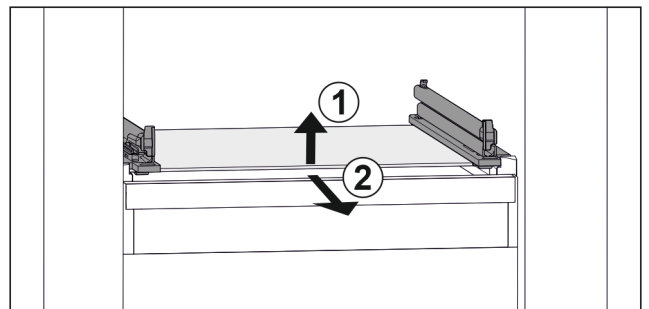

Fig. 106 Example illustration of glass shelf
- ▶ Lift glass shelf at the front. Fig. 106 (1)
- ▶ Take out glass shelf to the front. Fig. 106 (2)